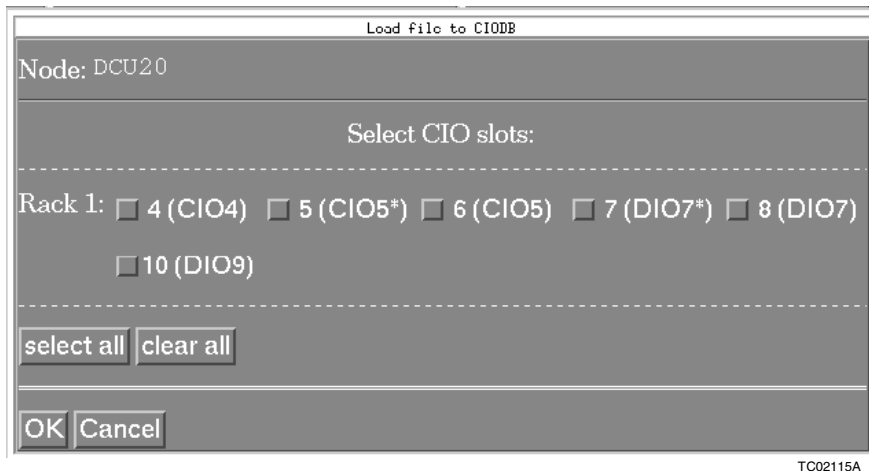

Figure 6-6. Load Database File Selection Window (Redundant DIO Boards)
4. Click *load*. A window will open similar to Figure 6-6.
The window displays all racks, and slots in the Harmony DCU containing CIO and DIO boards. The logical address of the CIO and DIO boards are displayed in parentheses after the slot number. In the example shown in Figure 6-6, the logical address is the same for the two DIO boards in slots seven and eight. The asterisk displayed after the logical address for the board in slot seven is an indication of which board is the primary DIO board.